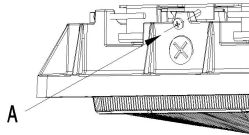

Figure 11
6. Retighten screw A to hold the mounting plate in place on the luminaire body. See Figure 11.